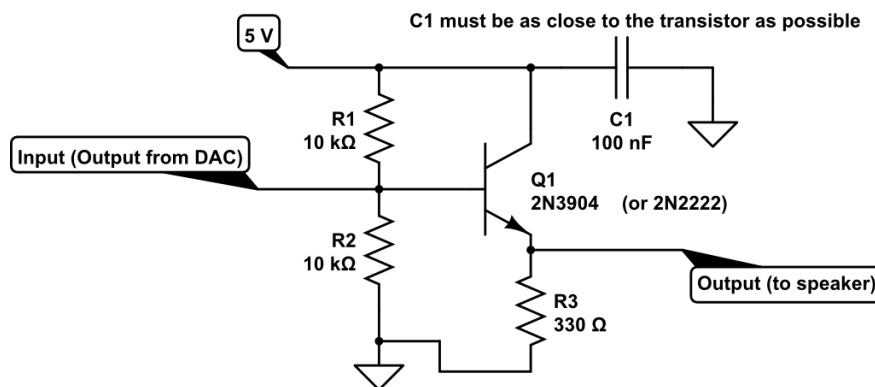

Figure 8: An emitter follower (current amplifier)
- Construct the circuit shown in figure 8 and connect the output from the DAC as shown.